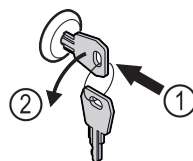

Fig. 207
- ▶ Insert the key. Fig. 207 (1)
- ▶ Turn the key anticlockwise by 90°. Fig. 207 (2)